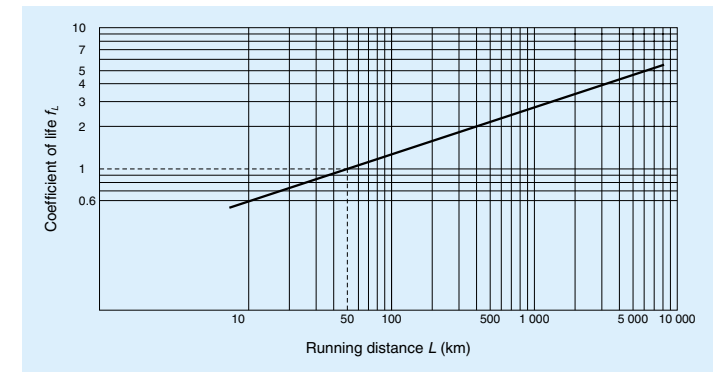

Fig. III-1-5 Relationship between life factor and running distance
- P: Radial load (N)
- $f_L$ : Life factor (Refer to Fig. III-1-5)